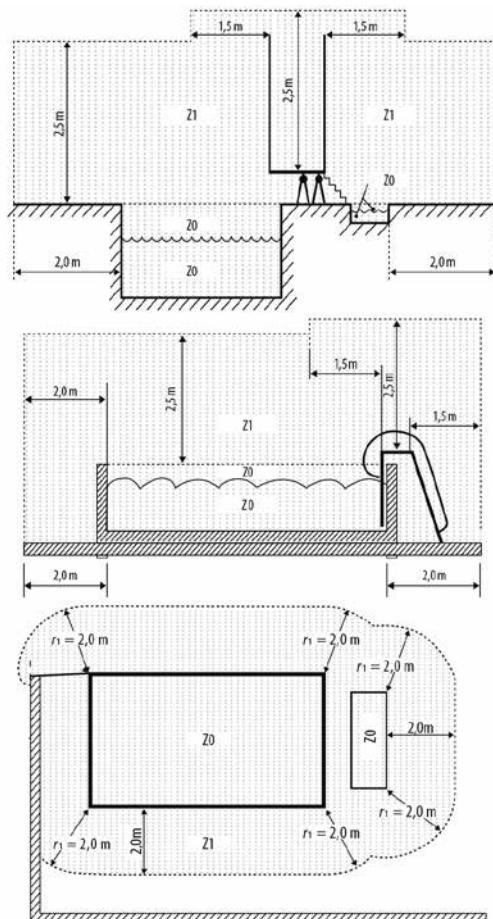

FIGURE 1 - **INSTALLATION ZONES** Marked zones: the pump cannot be installed here
- The pump can not be installed in the Zone 0 and Zone 1. To see drawing refer to Figure 1 - Installation zones.